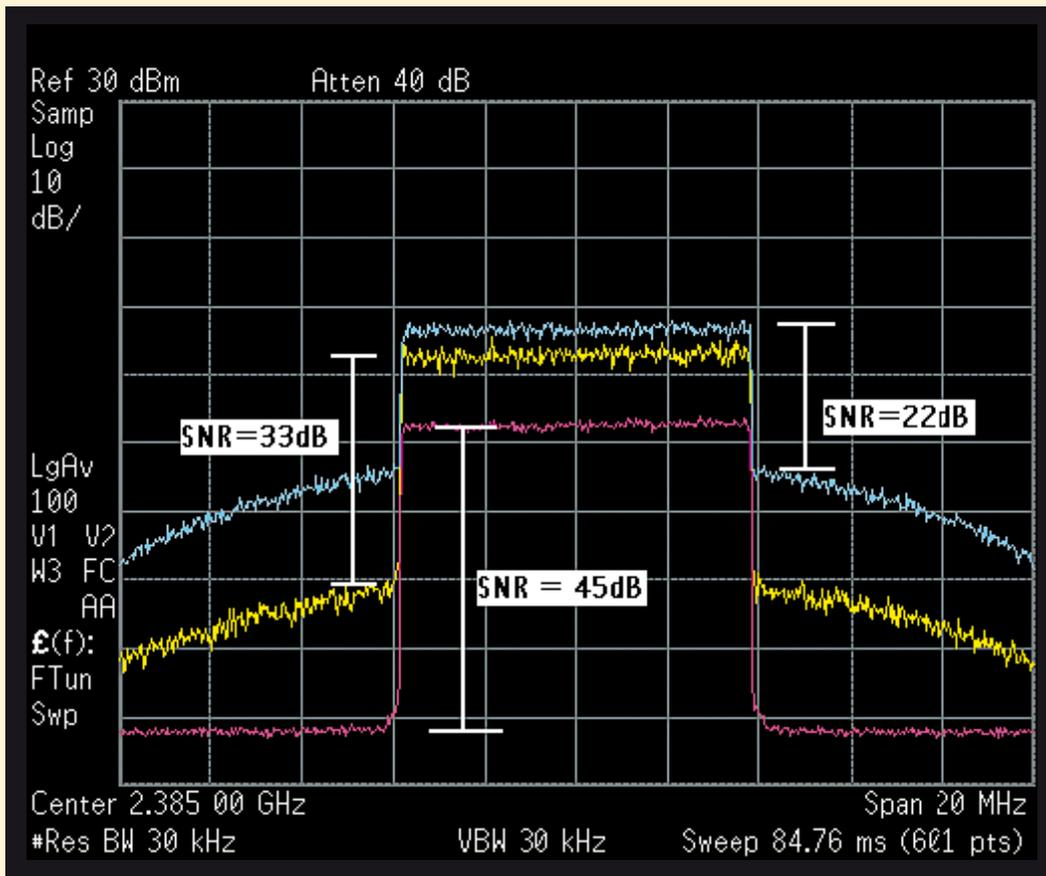

Figure 1: OFDM Signal-to-Noise ratio (SNR) decreases and IMD increases as Peak Power output is compressed
These higher PAR levels translate to higher power being needed in an amplifier. That can be seen as inefficiency, as the heavy lifting is being done at lower power levels, or as a reasonable cost of increasing the density of the data. Crest Factor Reduction (CFR) schemes that pre-clip the signal can reduce the PAR for some types of modulation, but even so, complex modulated signals will still degrade slowly over a wide power range as the signal peaks are increasingly clipped in the amplifier (see fig. 1). This causes progressively increasing digital errors and also pushes energy into adjacent channels, creating “noise”. It is important to remember that PAR for complex-waveform signals can vary with the data payload sent, so try to test your system with a worst-case data set. Pseudo-Noise (PN) data produced by a signal generator may not represent your worst-case signal.
Figure 1 shows an OFDM signal degrading in an amplifier as the Peak power approaches and crosses over the P1 compression point. The lowest trace is an uncompressed signal with better than a 45 dB SNR. The middle Trace 2 shows the input signal 10 dB higher than for Trace 1, with signal peaks just touching the P1 point. While the gain across the data channel has increased by 10 dB, Intermodulation distortion has created “shoulders” of noise, reducing the SNR to 33 dB. Increasing the drive by only 5 dB in Trace 3 shows that the power in the adjacent channels has increased by 16 dB, and SNR has been reduced to about 22 dB. Your specific application will determine what level of SNR is required or can be tolerated.